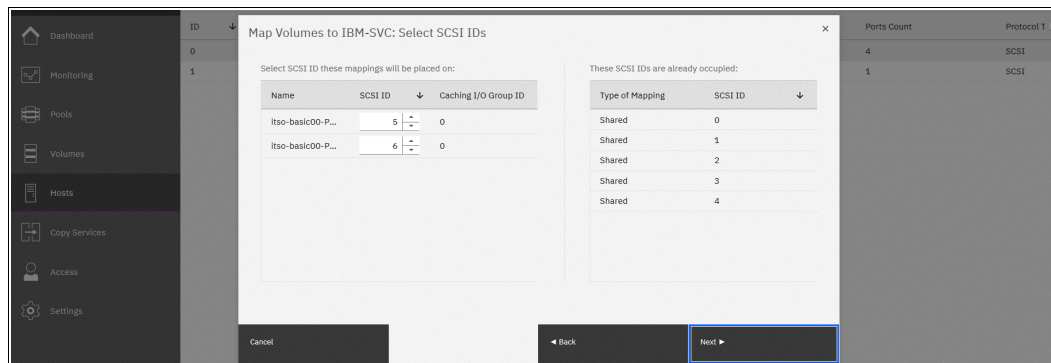

Figure 7-59 Assigning a SCSI ID to mapped volumes manually
- By default, the system assigns the next available SCSI ID for new mappings automatically. But, you can also click **Self Assign** to manually assign SCSI LUN IDs, as shown in Figure 7-59.